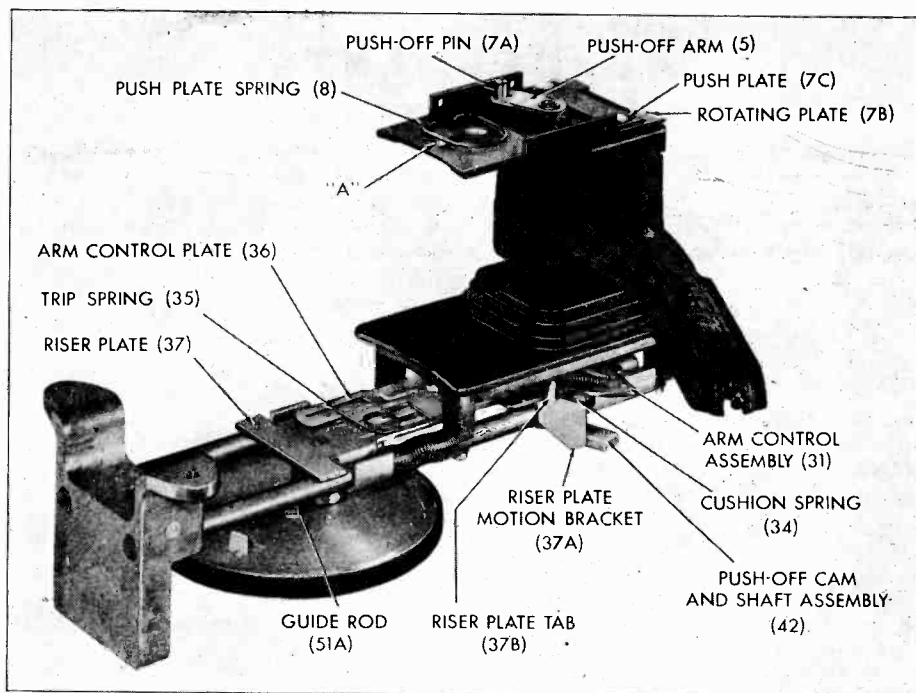

FIGURE 5.
(b) Manually slide the push plate (7C) over the rotating plate (7B) until a piece of metal $3/32$ inch in diameter or a #8-32 Bristol wrench can be inserted into the opening at the front of the center slot in the push plate (see "A", figure 5). If the 12-inch push-off is faulty with this setting, try using a $1/16$ " piece of metal or a #6-32 Bristol wrench.
(b) Cushion spring (34) has slipped out of position and is on wrong side of riser plate tab (37B). Re-position spring. (See figure 5.)
Cushion spring (34) has slipped out of position and is on wrong side of riser plate tab (37B). Re-position spring. (See figure 5.)